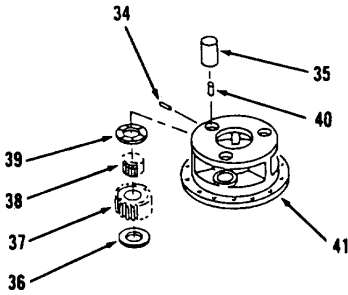
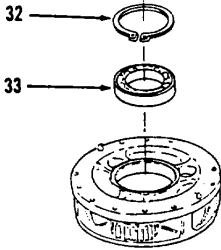

Figure 14-50.
Figure 14-49.
- 31. Install three discs (39), rollers (38), gears (37), discs (36) and shafts (35) in carrier (41, Figure 14-50).
- 32. Install three new plugs (40) and new pins (34), if removed, to shafts (35) and in carrier (41).
- 33. Install bearing (33) and snap ring (32, Figure 14-49).